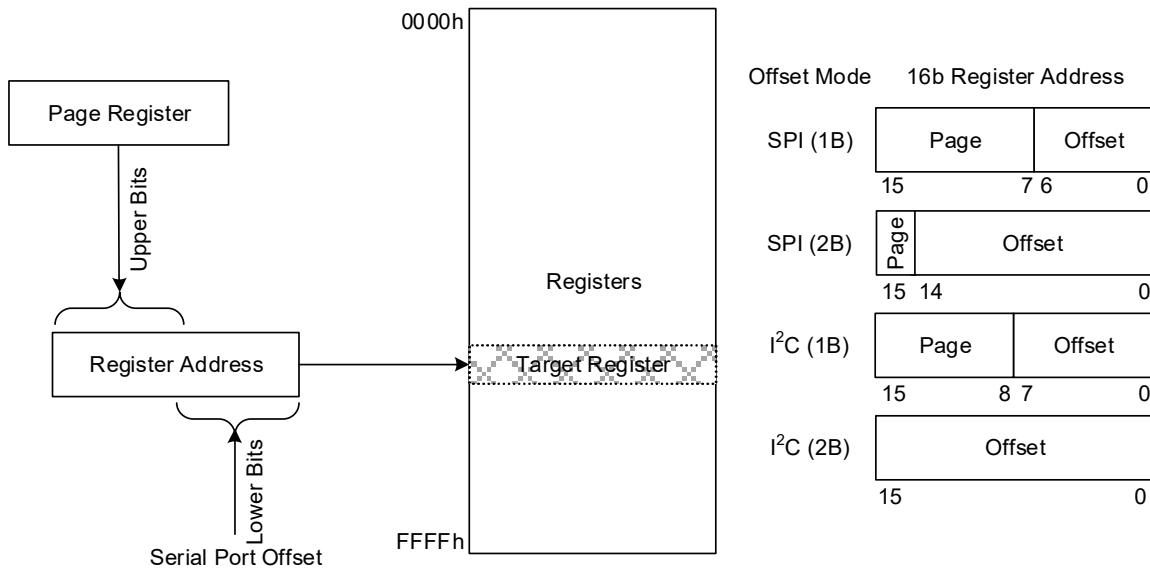

Figure 15. Register Addressing Modes Using Serial Port
You can choose to operate the serial port providing the full offset address within each burst, or to operate in a paged mode where part of the address offset is provided in each transaction and another part comes from an internal page register in each serial port. Figure 15 shows how page register and offset bytes from each serial transaction interact to address a register within the RC32514A.
The selection of 1-byte (1B) or 2-byte (2B) offset addressing must also be configured using the `ssi_addr_size` register field. These offsets are used in conjunction with the page register to access registers internal to the device (see Figure 15). Because the I²C protocol already includes a read/write bit with the Dev Addr, all bits of the 1B or 2B offset field can be used to address internal registers.
- 1-byte (1B) or 2-byte (2B) offset addressing (`ssi_addr_size`) (see Figure 15)